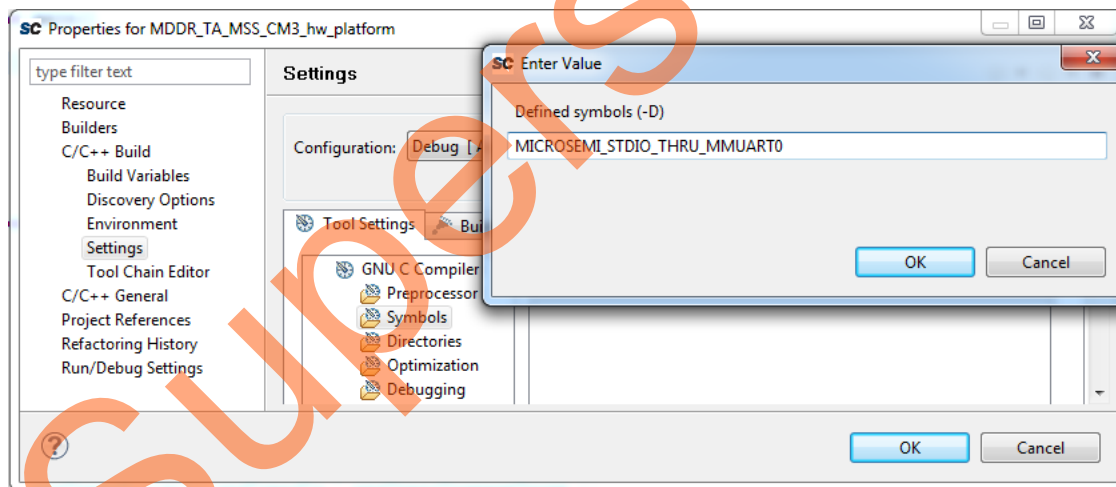

Figure 35 • MICROSEMI_STDIO_THRU_MMUART0 Symbol Settings
- Initializing and configuring the MMUART_0 with 115200 baud rate, 8 data bits, 1 stop bit, no parity, and no flow control. This is done by adding MICROSEMI_STDIO_THRU_MMUART0 symbol in the project settings as shown in Figure 35.